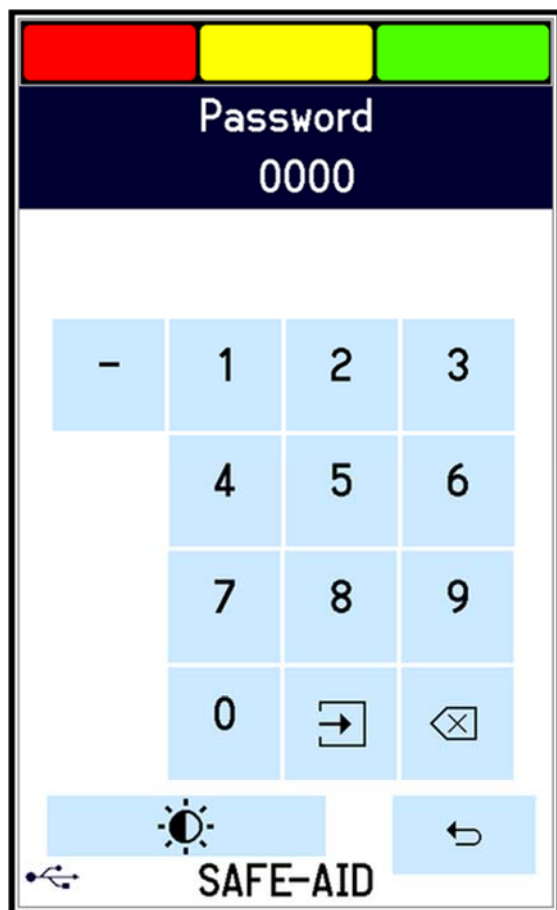

Figure 29
SCREEN BRIGHTNESS – FIGURES 29 & 30
1. Press the top left-hand corner and the **Password** screen will be displayed (figure 29).